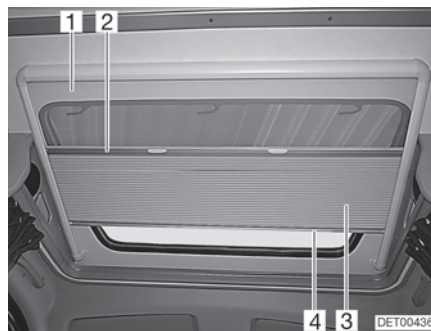

Fig. 46 Roof window
Roman shade The Roman shade (Fig. 46,3) is permanently connected to the insect screen (Fig. 46,1).
- Hold the Roman shade in the centre of the bottom rod (Fig. 46,4) and carefully draw it downwards.
- Slowly return the Roman shade to its initial position with the bottom rod (Fig. 46,4).
- Hold the insect screen at the centre of the bottom rod (Fig. 46,2) and carefully pull it downward as far as it goes.
- Slowly return the insect screen on the bottom rod of the Roman shade (Fig. 46,4).